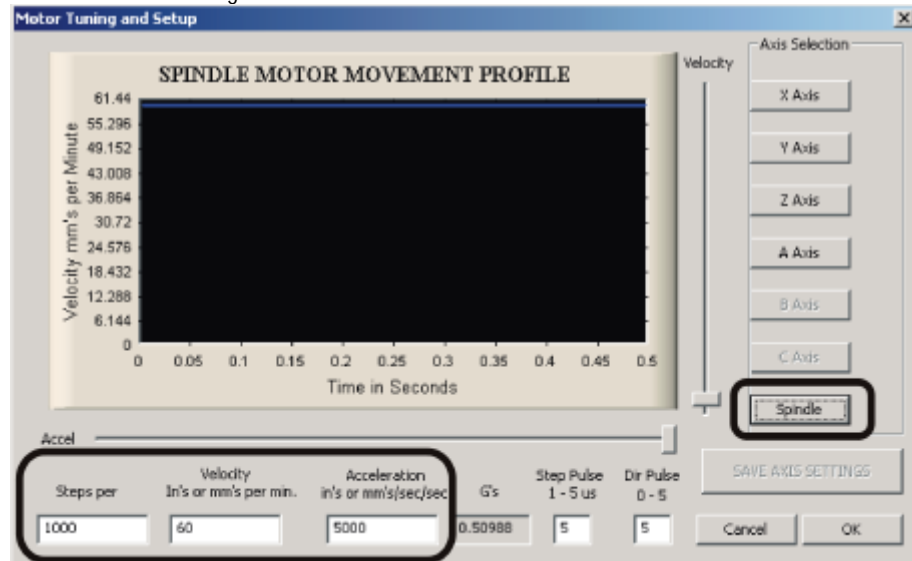

Figure 5 – Mach3 Spindle Motor Tuning Configuration
- (4) Go to the "Config", "Motor Tuning" menu. Along the right side, click on the "Spindle" box to show the spindle profile. In the boxes along the bottom edge, change the "Steps Per" to "1000", the "Velocity" to "60" and "Acceleration" value from its default (usually "1") to "5000" (see Figure 5). Click on "Save Axis Settings" and then "OK".